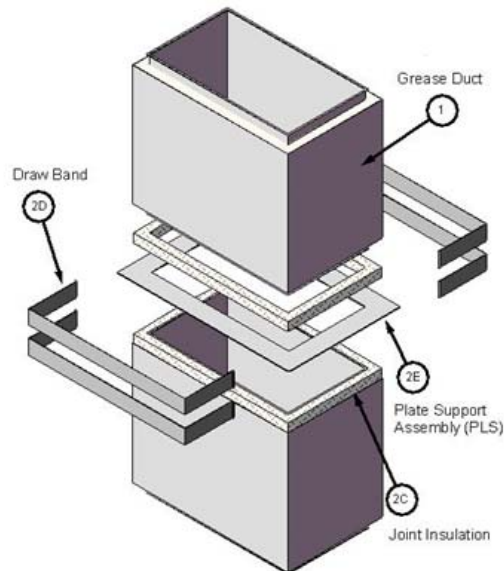

Figure 3. Plate Support Assembly (PLS)
B. VERTICAL SUPPORTS – Reference Figures 3, 4, and 5. Where the Pre-Fabricated Grease Duct (Item 1) is installed vertically, use the Plate Support Assembly (PLS), Flange Support Assembly (FSA), and/or Wall Brackets (WBR) as specified below.
ii. PLATE SUPPORT ASSEMBLY (PLS) – Secure the Pre-Fabricated Grease Duct (Item 1) sections joined with the PLS (reference Figure 3) to the supporting construction (supplied by others). Ensure the PLS is supported continuously on all sides. Fasten the PLS to the supporting construction at min. on each of the four corners using appropriate type fasteners for the intended construction and as specified by the responsible design professional. Ensure that the supports are spaced such as not to exceed a max. load of 2,400 lb.